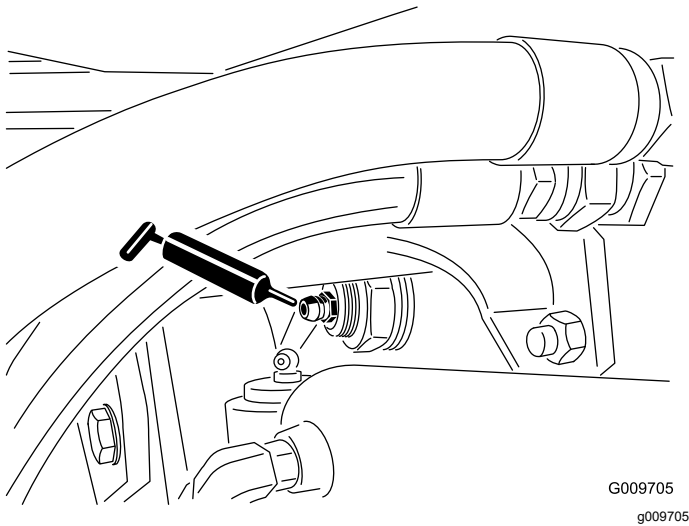

Figure 82
- Rear-axle-pivot bushings (2) as shown in Figure 82